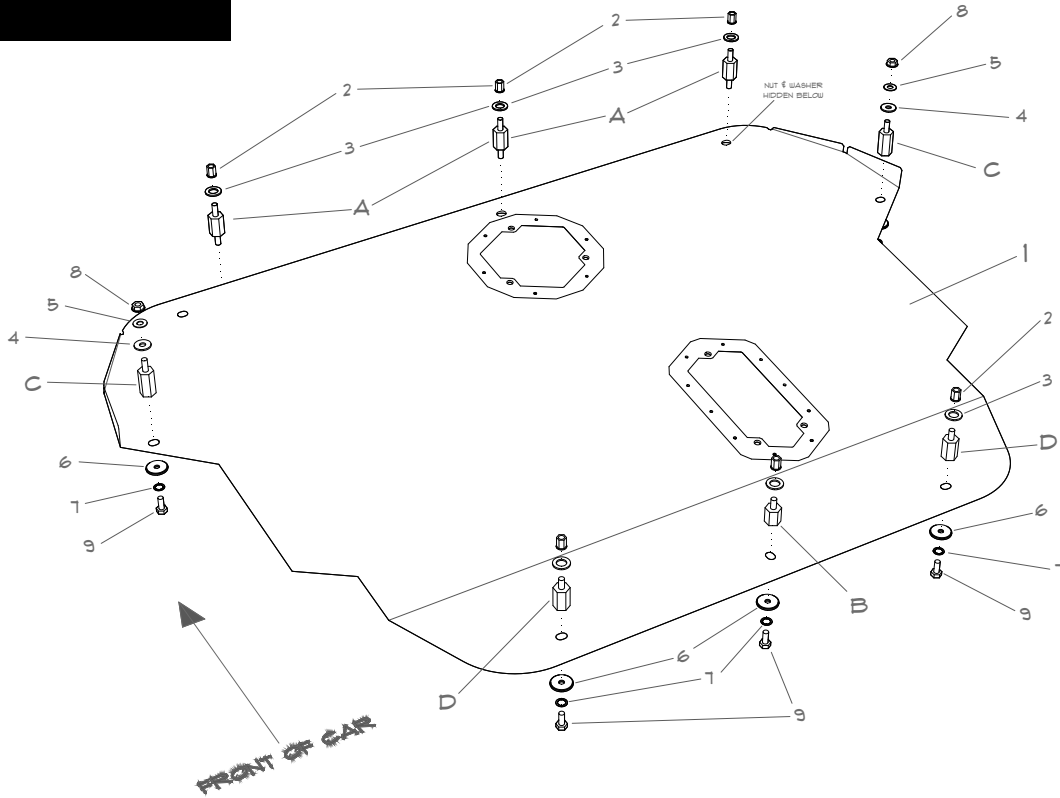

FIGURE 1 - SKID PLATE INSTALLATION PARTS DIAGRAM
2. **Install provided rivet nuts** into the holes marked **A, B, & D** in Figure 1. Try to keep them centered in the rectangular holes. This can be done with any rivet nut install tool capable of setting rivet nuts with 1/4-20 threads.